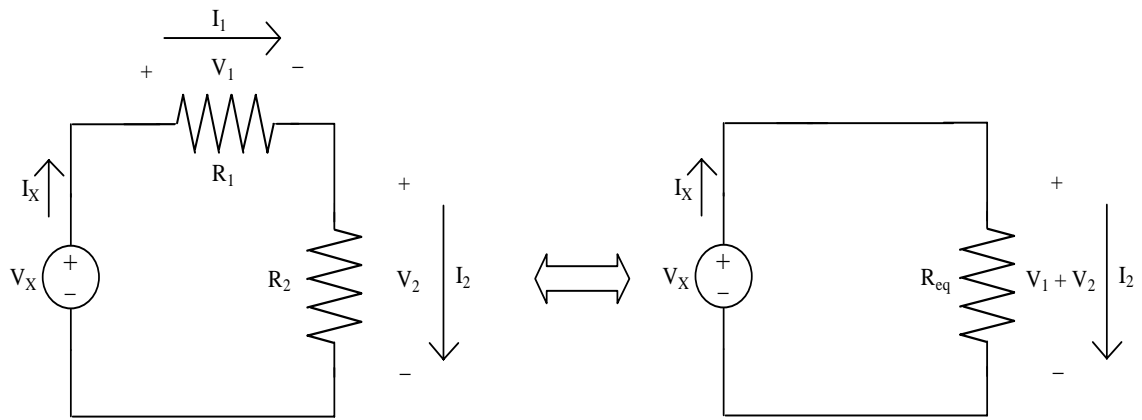

Figure 7
f. Resistors connected in series (see Figure7):
h. Voltage divider (see Figure 7):